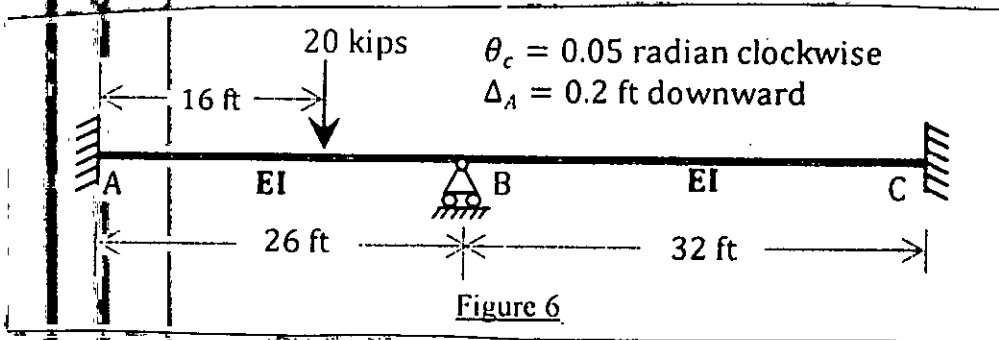

Figure 6
6. In the beam shown in Figure 6, the support at A settles down by 0.2 feet and the support at C rotates 0.05 radian clockwise. Analyze the beam using the Moment Distribution Method and draw the shear force diagram of the beam.